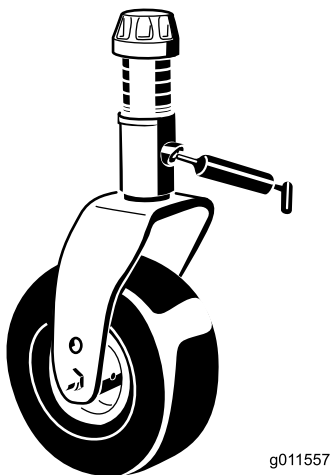

Figure 37
- 2 caster-fork-shaft bushings (Figure 37)